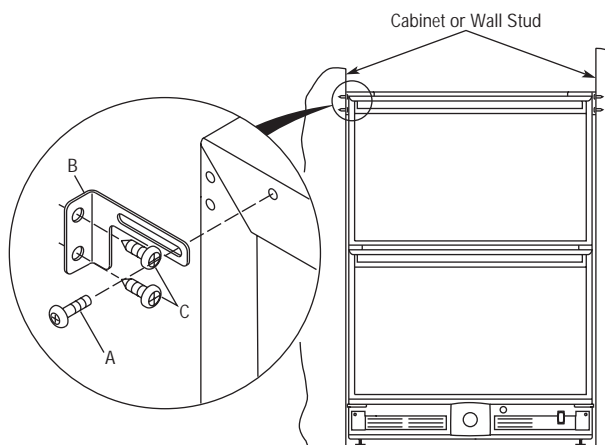

Figure 26
1. Open the upper drawer to expose the six screws (A) installed at the top two corners (three at each corner). Remove the appropriate screws for horizontal or vertical mounting (see **Figure 26**). Do not discard.